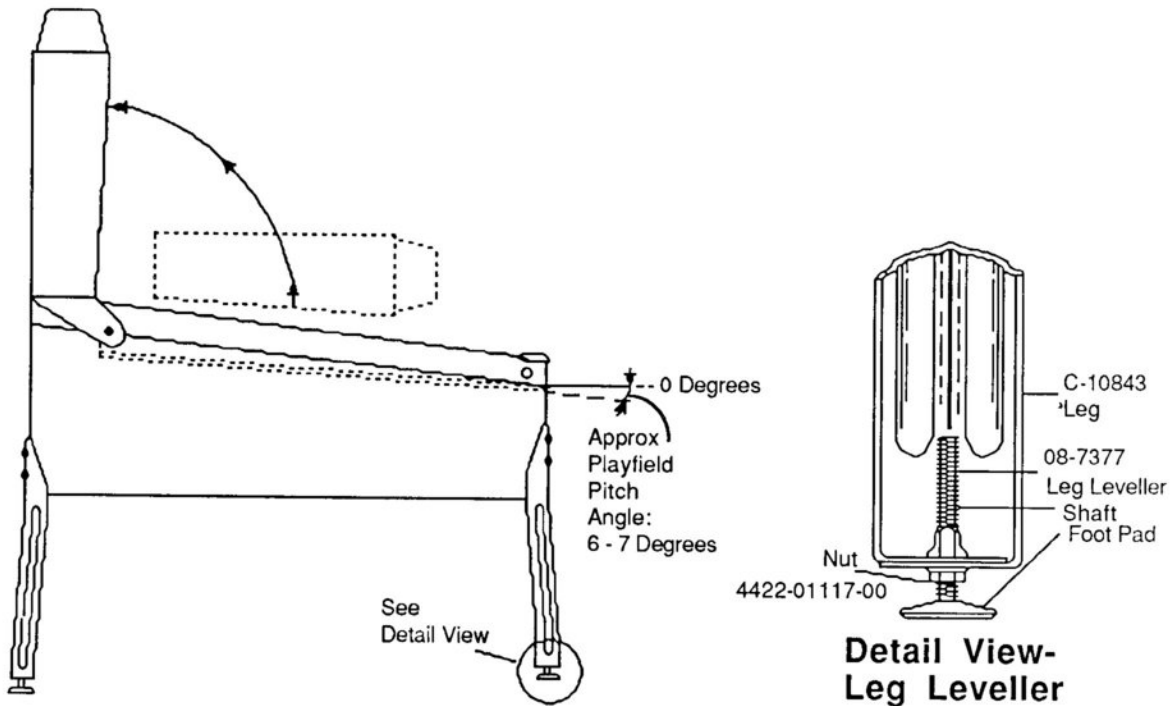

Figure 3. Pinball Assembly, Playfield Pitch Angle, and Leg Leveller Details.
3. Attach the front legs (after installing leg levellers), using leg bolts. See Figure 3 for details.
- Place a level or an inclinometer on the playfield surface. Adjust the leg levellers for proper playfield level (side-to-side) and playfield pitch angle (incline) of approximately 6-7 degrees. NOTE: It is recommended that these measurements be made ON the playfield, not the cabinet nor the playfield cover glass. Tighten the nut on each leg leveller shaft to maintain this setting, as shown in Figure 3.